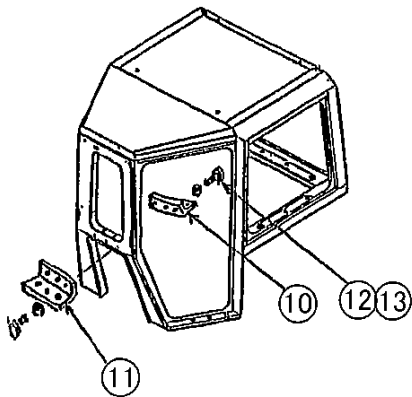

Fig. 2
Install indoor L-plate (10) and outdoor L-plate (11) temporarily with bolts (12) and washers (13) as shown in Fig. 2. (3 pieces on each side)